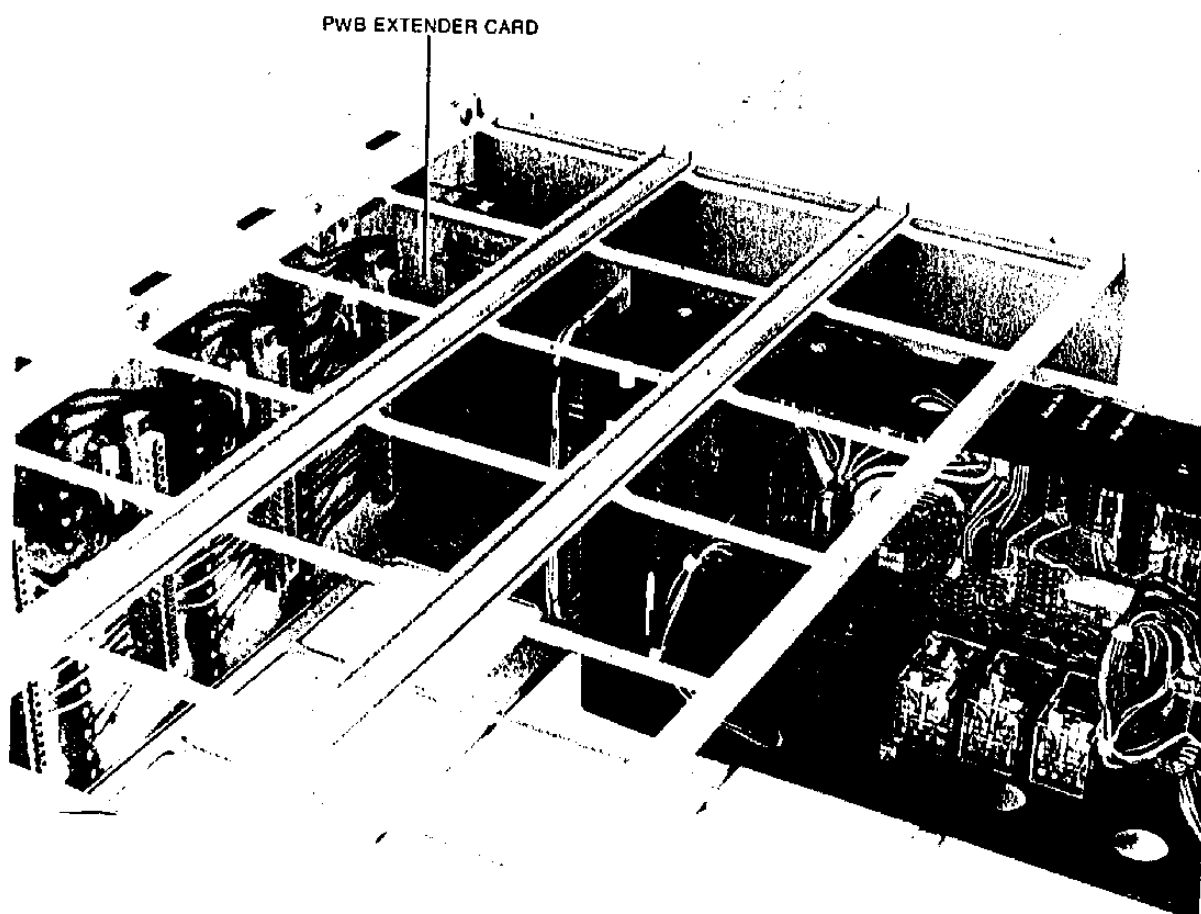

Figure 3-3. Controller Mounted On PWB Extender Card
1. Remove the controller and install the extender card (part number 225203) being sure the card is right-side up, Figure 3-3.